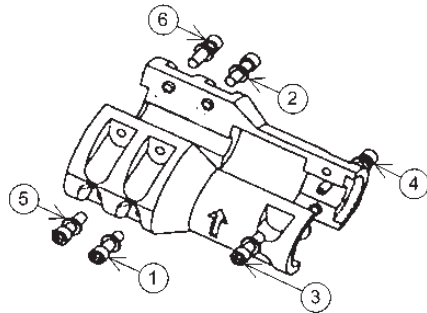

Figure 30: Coupling Torque Pattern
33. Very lightly tighten the remaining (4) socket head screws on the coupling. Tighten the coupling evenly; ensure that the coupling is symmetrical on both the pump and motor shafts. Do NOT torque the cap screws in this step.
34. Torque the socket head cap screws on the coupling. Refer to Figure 30 for the proper torque pattern. See the “Engineering Data” section on page 8 of this manual for the proper torque value.